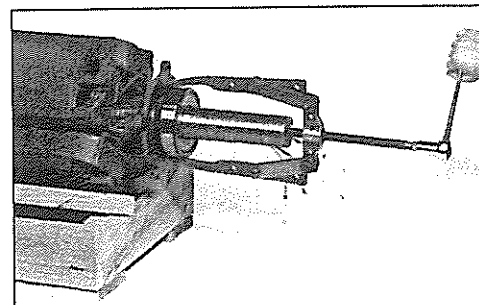

Figure 6-38
2. If the bearing is to be replaced, remove with a suitable puller (figure 6-38).